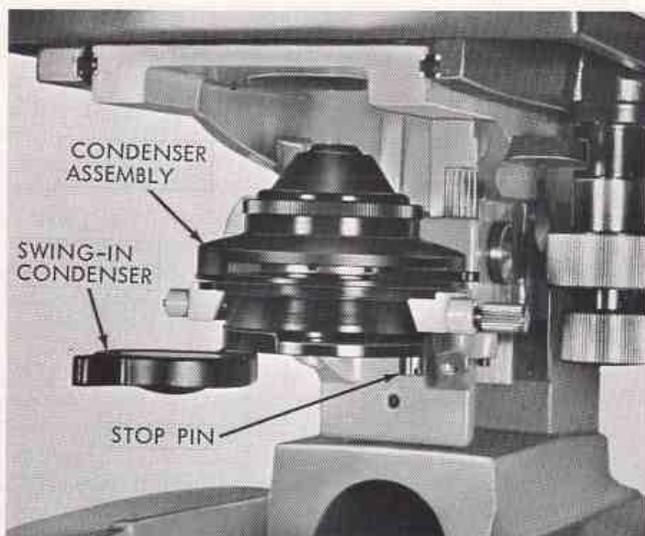

Figure 19. Auxiliary Swing-in Condenser
- d. Auxiliary Swing-in Condenser, Cat. No. 1090. This condenser (figure 19) permits filling the entire field of the 4X scanning objective when using the No. 1036A in-base illuminator, or when using external illuminators with the plano mirror. It is not required when the microscope is equipped with on-base illuminators, Cat. No. 1034 and No. 1037.